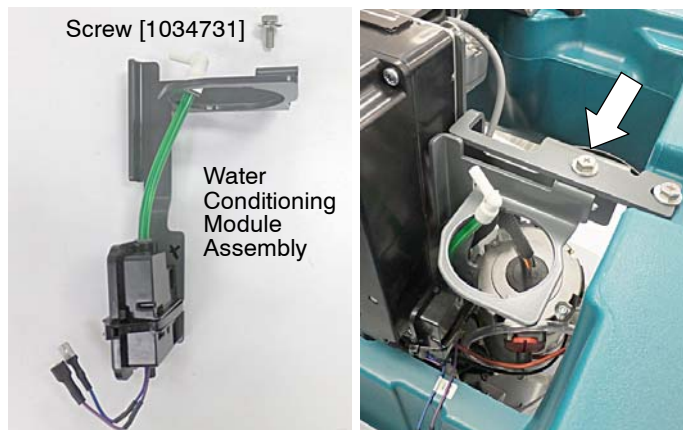

Fig. 7
- Mount the water conditioning module assembly to machine bracket using screw as shown (Figure 7).